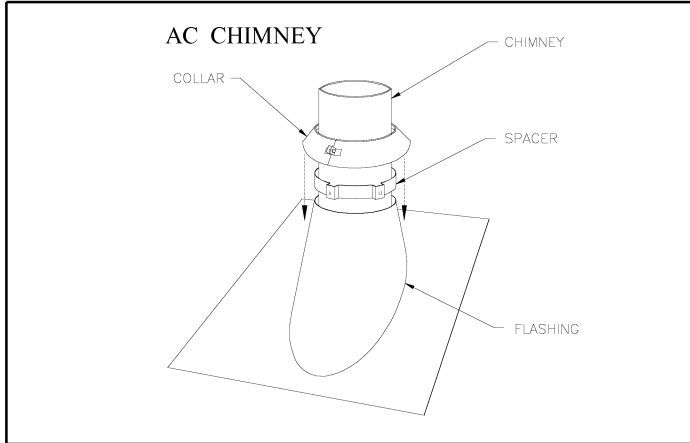

Figure 29
5. Then, put the roof flashing in place and seal the joint between the roof and the flashing with roofing pitch (see figures 29 & 30). For sloping roofs, place the flashing under the upper shingles and on top of the lower shingles. Nail the flashing to the roof, using roofing nails.